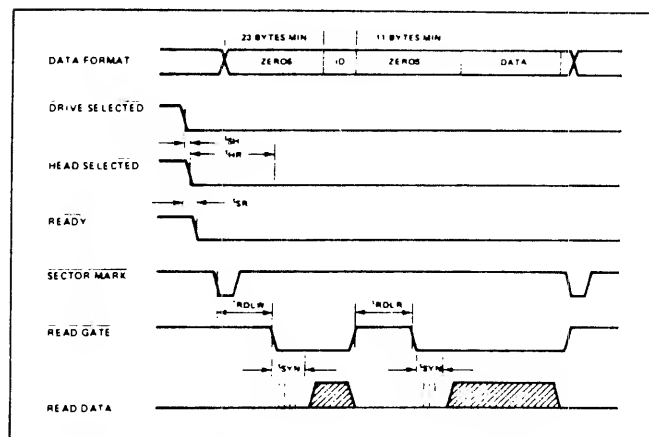

Figure 10.5-8 Record Reading Timing
8. **Record Reading** Figure 10.5-8 shows the timing requirements for reading full sectors (ID and data fields) and also for reading data fields only. The AC characteristics are listed in Table 10.5-8